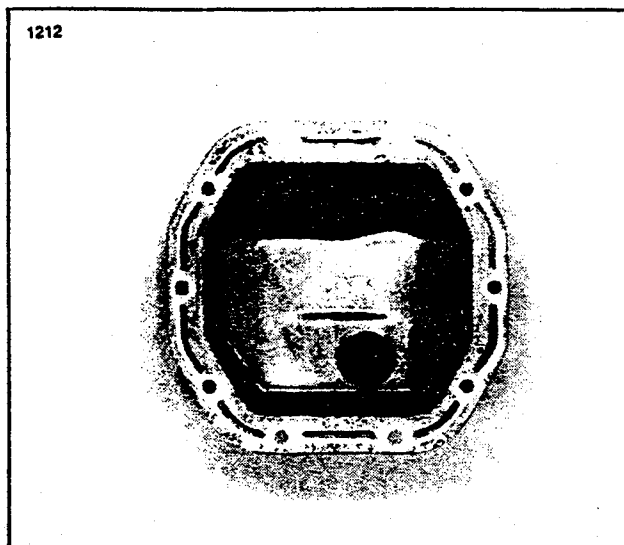

Figure 3-29. Applying Sealant
- See Figure 3-29. Apply a bead of Sealant to differential housing, cover and cover holes. Tighten cover bolts (2) to 18-23 ft-lbs (3.8 kgm) torque.